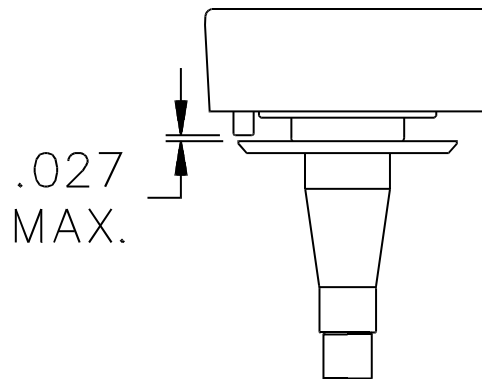

Figure 7 - ABS Sensor & Tone Ring Gap
8. Check physical gap between the sensor and tone ring (Figure 7). The brake drum must be removed to inspect gap. The maximum allowable gap is .027 inch. If the gap is greater than .027 inch, press on the wire lead end of the sensor and push the sensor into contact with the tone ring. Check that the ABS spring retainer and bushing are not unseated. Re-seat components as needed.